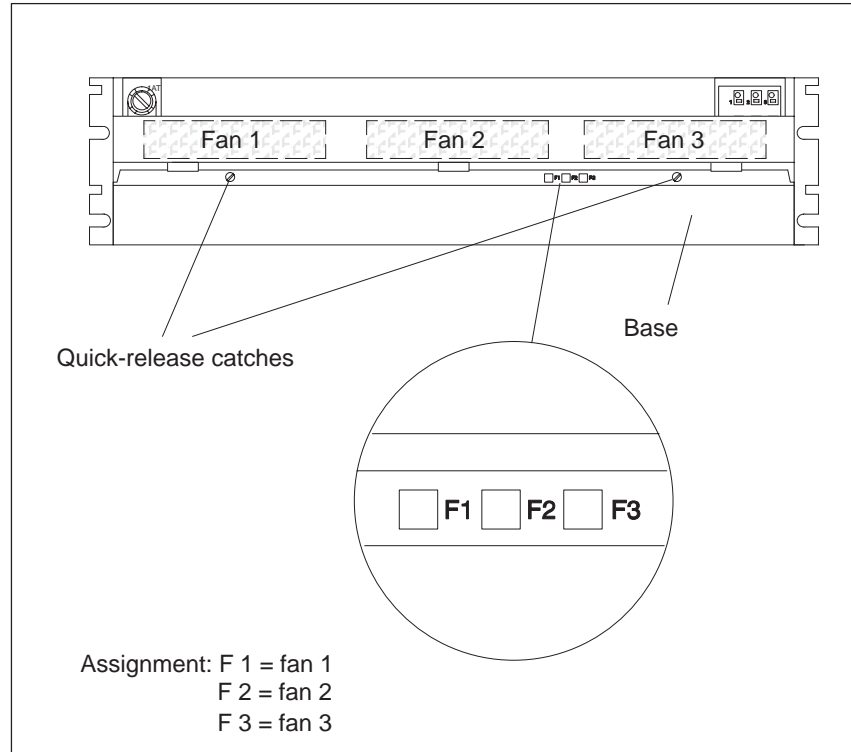

Figure 4-10 LEDs of the Fan Subassembly
1. Using a screwdriver, make a quarter turn counter-clockwise to open the two quick-release catches on the front of the fan subassembly (Figure 4-10).